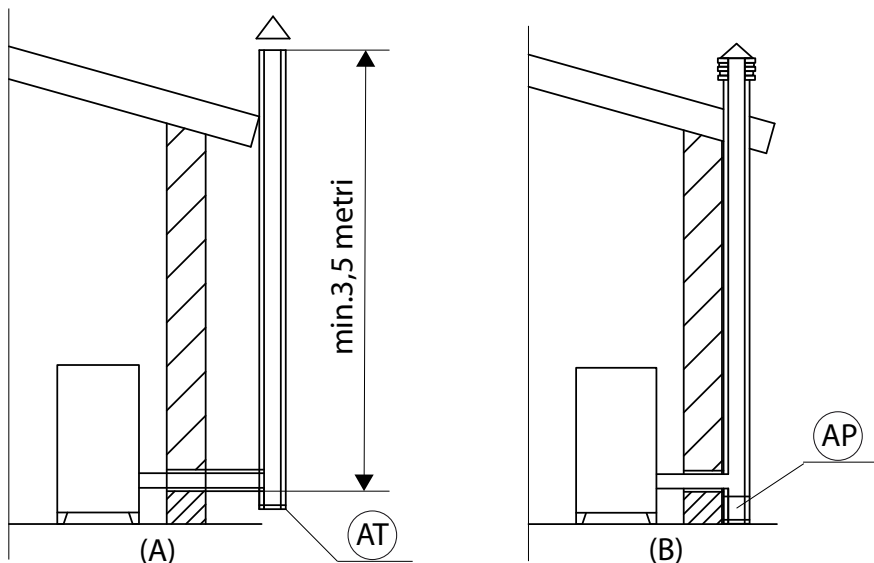

FIGURE 1 - SMOKE FLUE
A simple air shaft made of cement must be suitably lined. In both solutions there must be an inspection cap (AT) and/or inspection hatch (AP) - FIG.1.